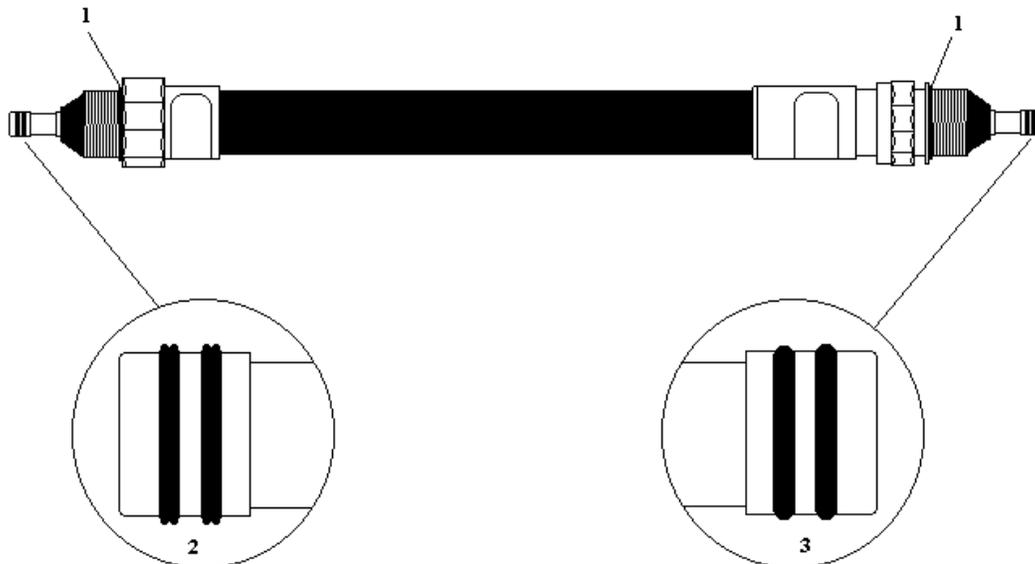

Figure 1.
1. **Part No. HB-2 O-Ring** (see Item #1 Figure 1.). This O-Ring seals the hose fitting to the nozzle and the adapter. Check the hose for external leaks. Replace the O-Ring if necessary.
2. **Part No. HB-4 Quad Seal** (see Item #2 Figure 1.). This Quad Seal is used on the end of the hose that attaches to the breakaway assembly. If the symptom is meter creep, (fueling position display is counting up without dispensing product), check the HB-4 Quad Seal at the breakaway end of the hose and replace if necessary.
3. **Part No. 291 O-Ring** (see Item #3 Figure 1.). This O-Ring is used on the end of the hose that attaches to the nozzle or the hose adapter assembly. If the symptom is meter creep, (fueling position display is counting up without dispensing product), check the 291 O-Ring at the nozzle or adapter end of the hose and replace if necessary.